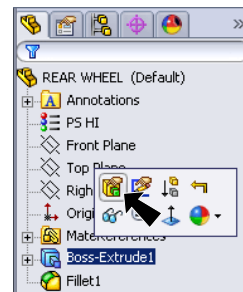

Fig. 15
Step 1. Click **Boss-Extrude1** in the Feature Manager and click **Edit Feature**  in the menu, Fig. 15.